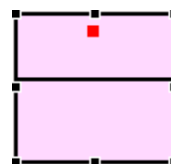

Figure 2-33 Software Resource Representation
3. Drag and drop the object in the Resource Editor. The object is available in the Editor. A sample of the object appears as shown in Figure 2-33.